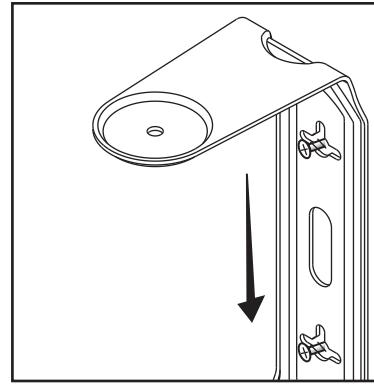

FIGURE 12
9. Line up the bracket, attached to the speaker, so that the screw heads pass through the large center hole of the bracket's keyhole slot [figure 12].
10. Let the speaker and bracket slide straight down, allowing the screw head to slip behind the smaller end of the keyhole slot [figure 12].
10. Laissez glisser l'ensemble support/enceinte vers le bas, permettant aux têtes de vis de glisser dans la partie étroite des fentes en trou de serrure [figure 12].